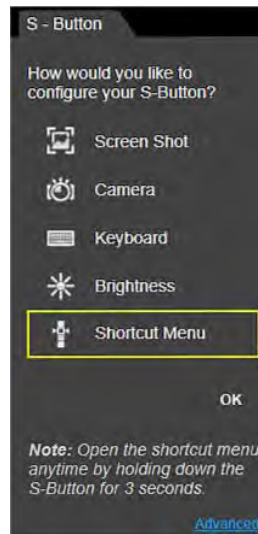

Figure 3-4 Shortcut (S) button configuration menu
1. Press and release the **Shortcut (S)** button.
3. Choose the function you would like the Shortcut button to perform when pressed (Figure 3-4).